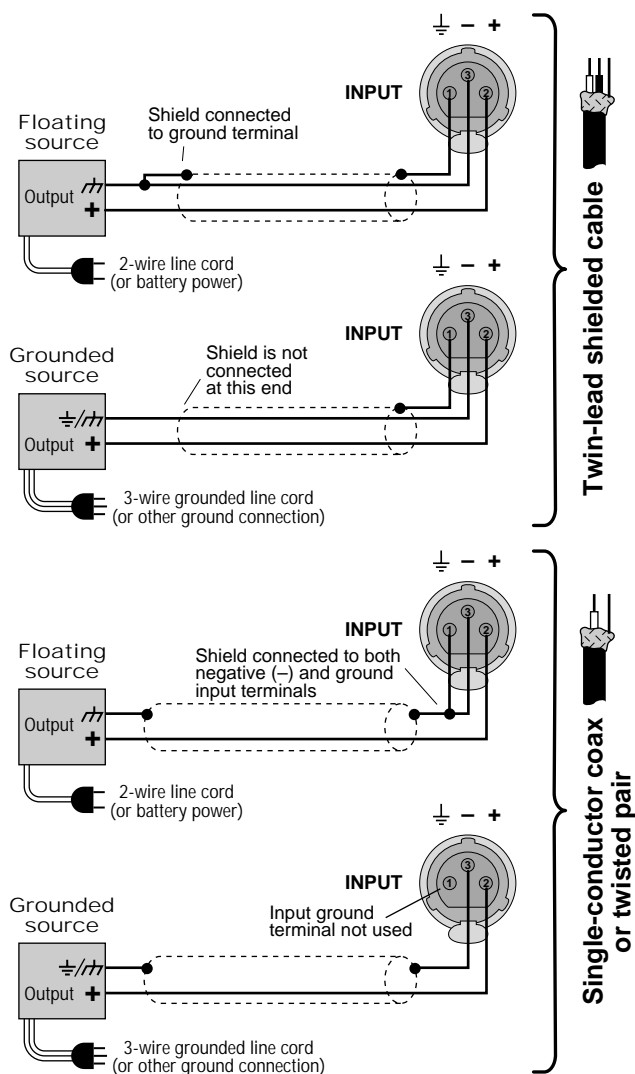
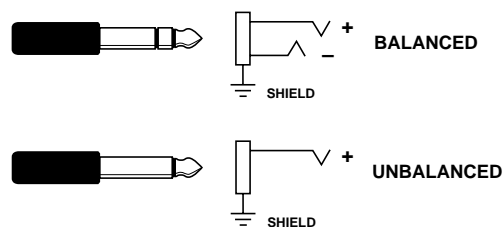

Fig. 3.5 Unbalanced Input Wiring
Fig. 3.7 Balanced and Unbalanced Phone Plug Wiring
Both the balanced XLR and phone jack inputs have a nominal impedance of 20 K ohms (10 K ohms with unbalanced wiring) and will accept the line-level output of most devices. Female XLR input connectors are provided on the standard P.I.P.-FX input module (other P.I.P. modules are described in Section 8.1). Correct input wiring will depend on two factors: (1) whether the input signals are balanced or unbalanced, and (2) whether the signal source floats or has a ground reference. Figures 3.7 and 3.8 show the recommended connection techniques for each type of signal source.
have a standard tip-ring-sleeve (TRS) configuration: the tip is positive (+), the ring is negative (-) and the sleeve is ground (see Figure 3.7). Wiring for various sources follows the XLR wiring guidelines shown in Figures 3.5 and 3.6.